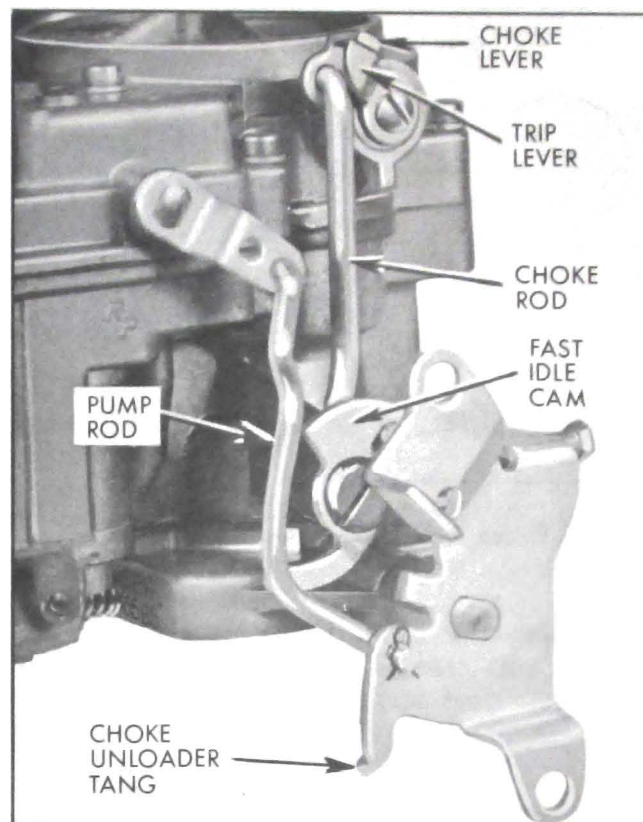

Figure 3-25—Choke Linkage
15. Install choke rod into choke lever and fast idle cam. Install fast idle cam screw and tighten securely. See Figure 3-25 for proper installation.